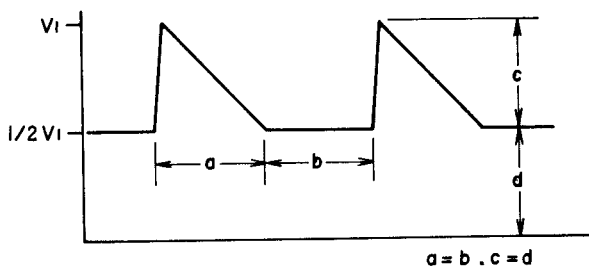

Fig. 24
- 4) Adjust VR1 (500 k Ω) and VR3 (500 k Ω) to give the waveform shown in Fig. 24. Please move and adjust both volume controls as there is a tendency for the VR1 to change voltage and VR3 to change tilt.